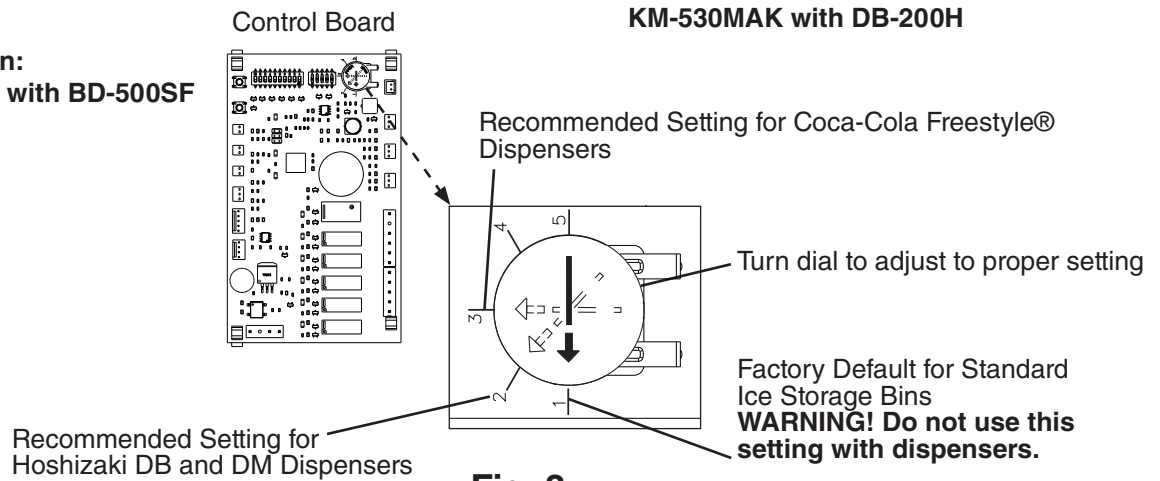

Fig. 8
b) KM-330_530_730MAK, KM-930MAK2, and KM-1130MAK2. See Fig. 8.